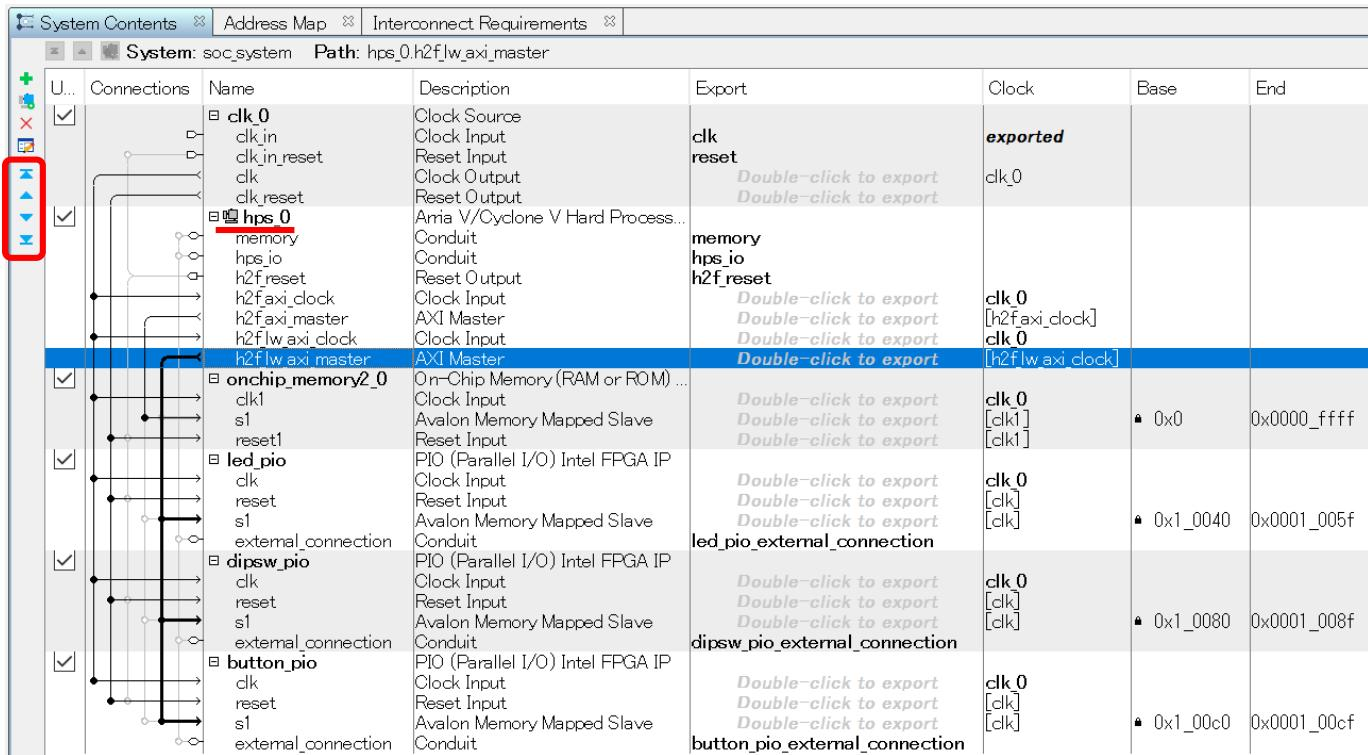

Figure 3-39. The Platform Designer system after configuration is complete
1. Verify that the Platform Designer system you designed is as shown in "Table 3-1. Connectivity of the Platform Designer system after design" below. Also refer to "Figure 3-39. The Platform Designer system after configuration is complete."